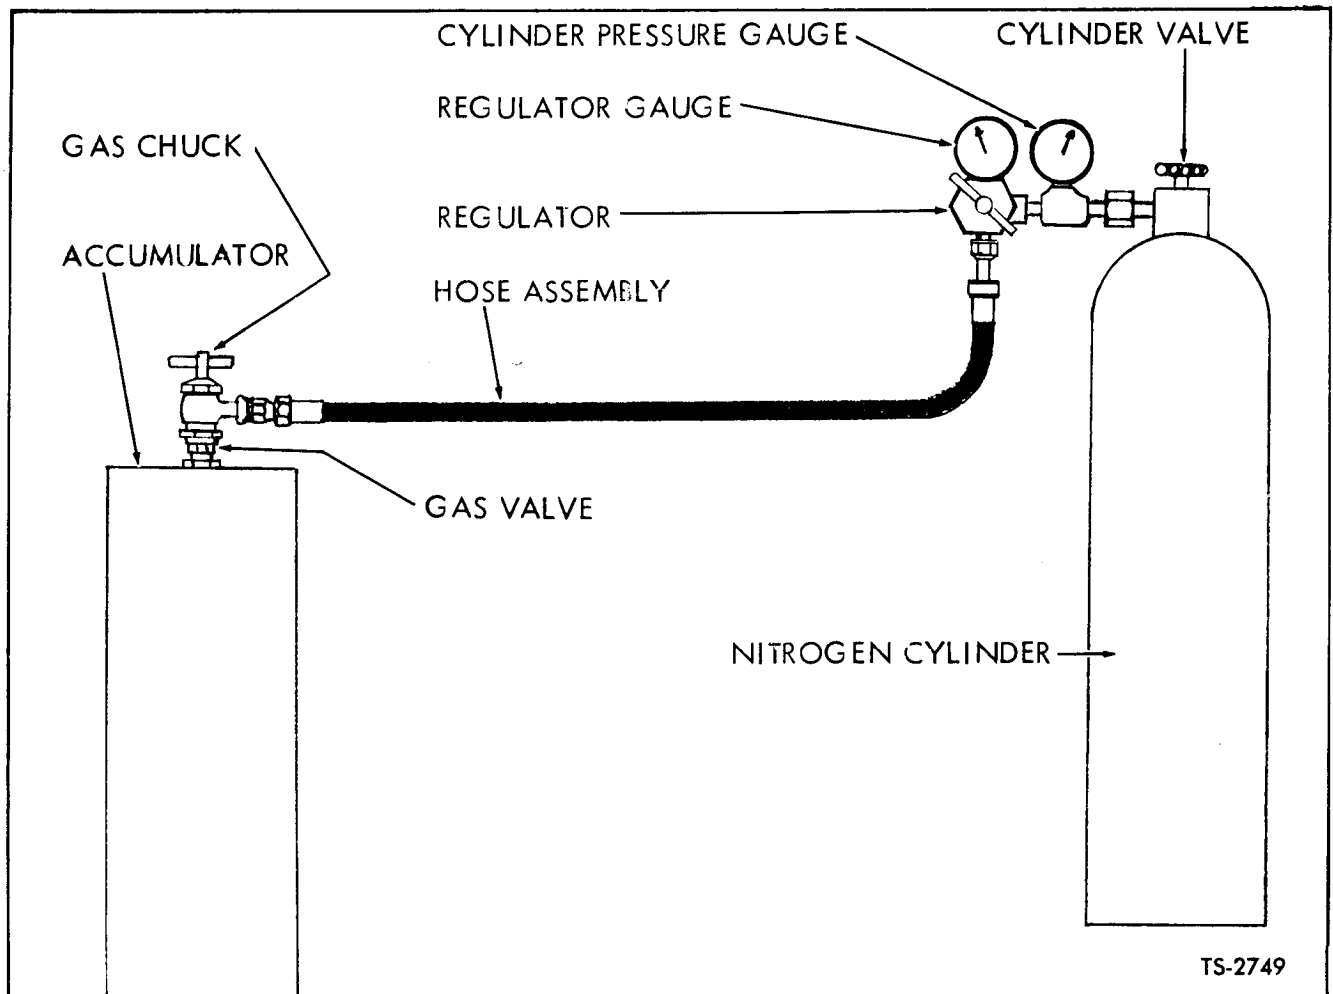

Fig. 23. Accumulator Charging and Checking Device Hook-Up
Precharge Gas Pressure should be 75 to 95 PSI at ambient temperature of 60°F. Check precharge of accumulator when its temperature is equal to ambient temperature. If there is a noticeable temperature difference, delay pressure check until temperatures are more nearly alike. For each 10°F difference in ambient temperature from 60°F, precharge pressure will rise or fall 6 PSI from 75 SPI specifications given above. If precharge is not within specification given above, proceed with recharging as outlined below. See Figure 23.
3. Attach Charging and Check Device, No. 944283, to nitrogen cylinder and to accumulator, as shown in Figure 23. Use wrench to tighten swivel nuts onto accumulator gas valve and to nitrogen cylinder. Turn T-handle valve on gas chuck all the way in by turning in a clockwise direction to depress valve core in gas valve.